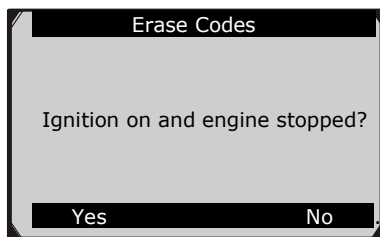

Figure 6.6
- 2) After you have pressed **OK** button, a message will come up asking you to check the ignition and engine status. (Figure 6.6)